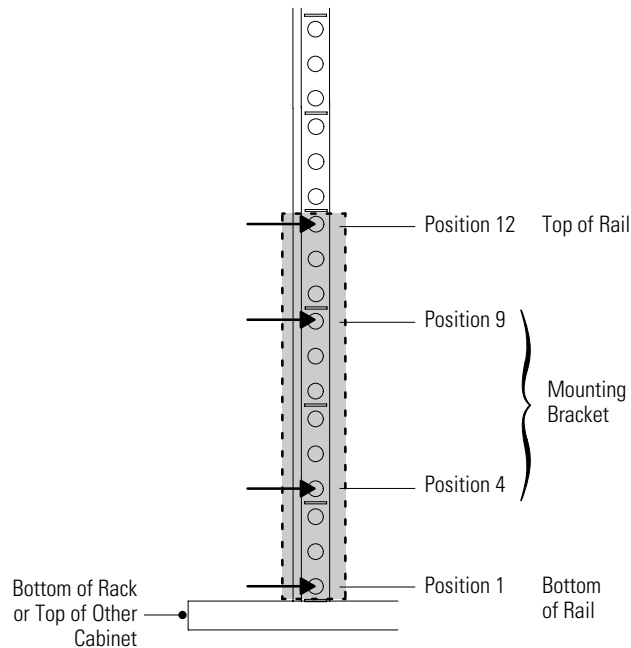
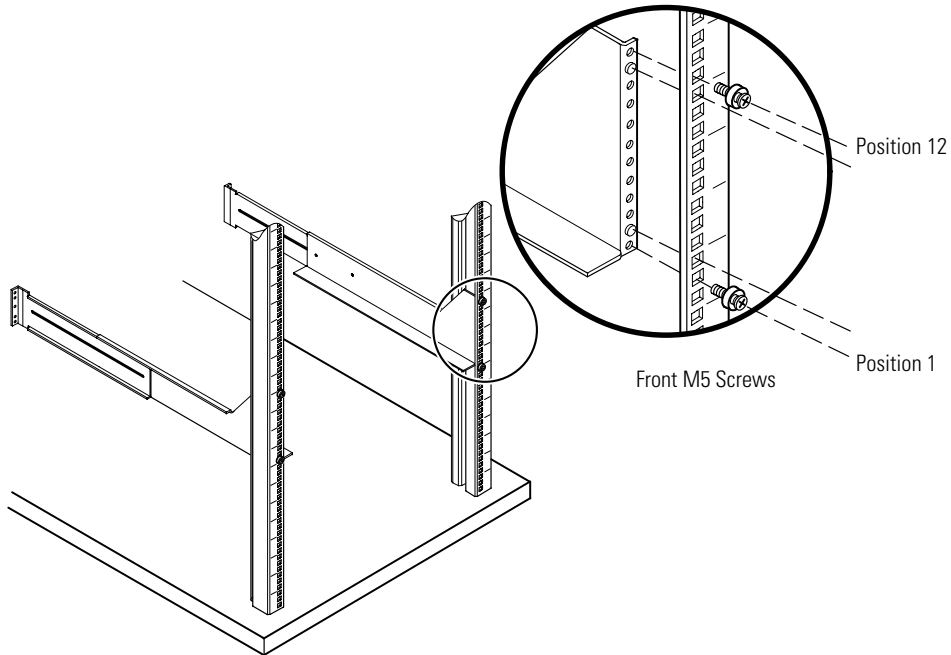

Figure 17. Front Rail Screw Positions for the UPS
Figure 19. Securing the Front Rail
1. Select the proper holes in the rack for positioning the UPS in the rack (see Figure 17).
3. Using two M5 machine screws, attach the rail to the front of the rack and finger-tighten only (see Figure 17 and Figure 19).